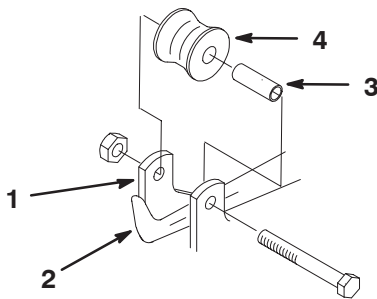

Figure 4
2. Slide the spiker unit in front of the traction unit pull frame until the lift arm is positioned between the lift pivot plates (Fig. 4).
3. While pressing down on the lift arm, mount the lift roller and the spacer to the lift pivot plates with a 3/8 x 2-1/2 in. capscrew and locknut (Fig. 4).